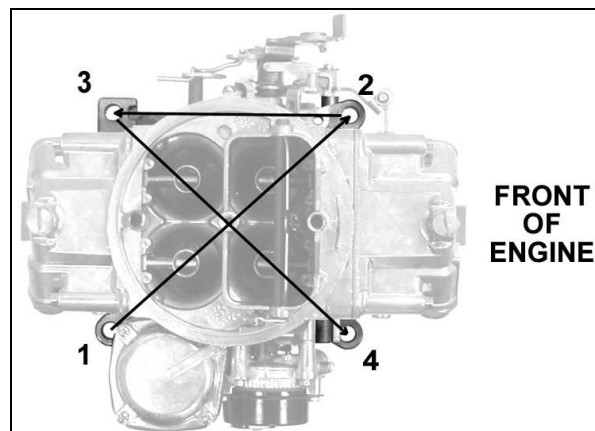

Figure 4—Carburetor hold-down nut torque sequence
3. Place the carburetor on top of the flange gasket on the manifold. Install the hold down nuts and snug down progressively in a "crisscross" pattern (60-80 in./lbs.), as shown in Figure 4.